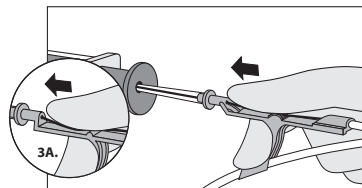

Figure 3
- If using Arrow GlideWheel Advancer, advance guidewire through the Arrow® Raulerson Syringe or through the introducer needle by pushing advancer wheel and guidewire forward (refer to Figure 3). Continue until guidewire reaches desired depth.